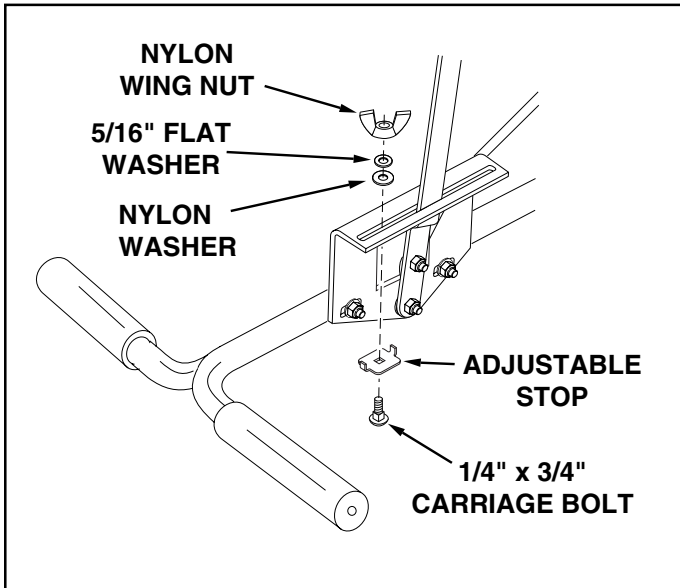

FIGURE 12
22. Place the adjustable stop into the "ON" end of the slot in the top of the flow control mounting bracket. Secure with the 1/4" x 3/4" carriage bolt, a nylon washer, a 5/16" flat washer and the nylon wing nut. See figure 12.